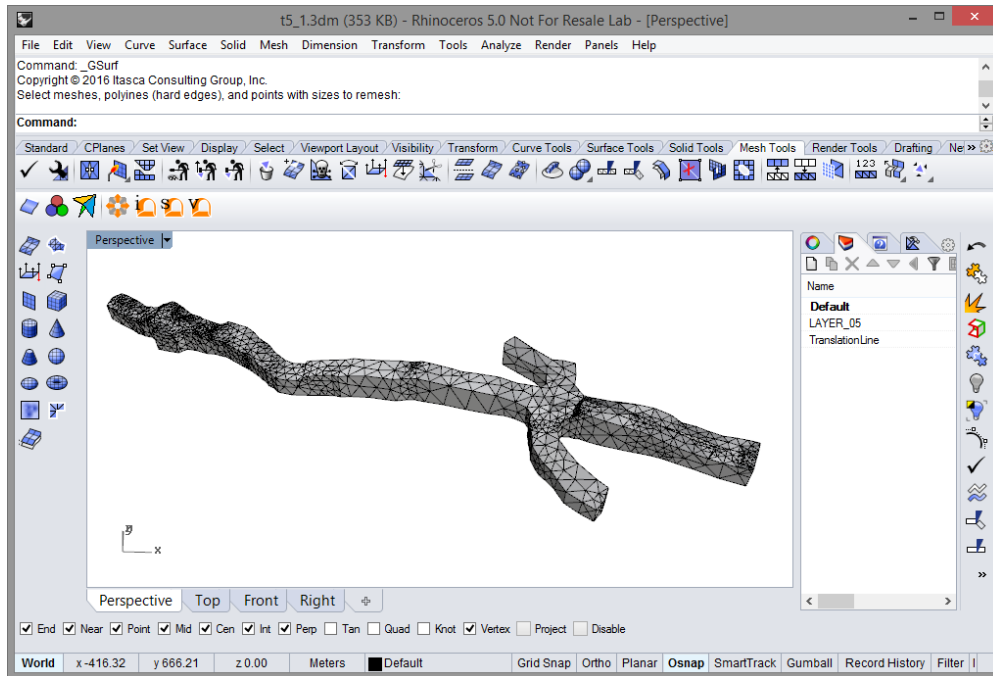

Figure 107: Triangle mesh after remeshing with GSurf.
8. At this point we could continue to use *Rhino*'s built-in mesh editing tools summarized below in Table 1 to remove degenerate, duplicate, non-manifold and isolated triangles, or we could generate an almost clean mesh with *Griddle*, using the current mesh as input. Select the mesh and type **_GSurf**. Select **Mode:Tri, MinEdgeLength 0.5, MaxEdgeLength 5, MaxGradation 1** and press Enter. We would like our resulting mesh to have edges no larger than the drift height and width (approximately 5 m) and we would also like to preserve some of the smaller scale features with the MinEdgeLength of 0.5 m (you should experiment with these and other **_GSurf** parameters). Your remeshed mesh should look similar to that shown in Figure 107.